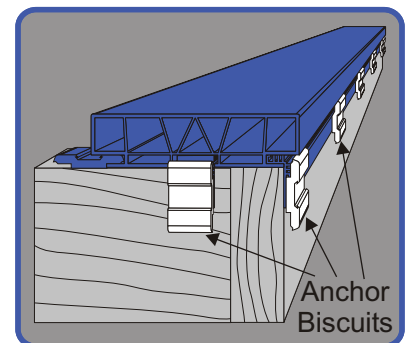

Figure 7
Step 6. Use anchor biscuits to secure end clamp strips and end clamp pieces to rim joists. Drive a 1½" deck screw through the slot in the anchor biscuit and through the end clamp into the rim joist. Use one anchor biscuit every 16" along the end clamp strips, and one anchor biscuit for every 1" end clamp piece along the end (see Figure 7).